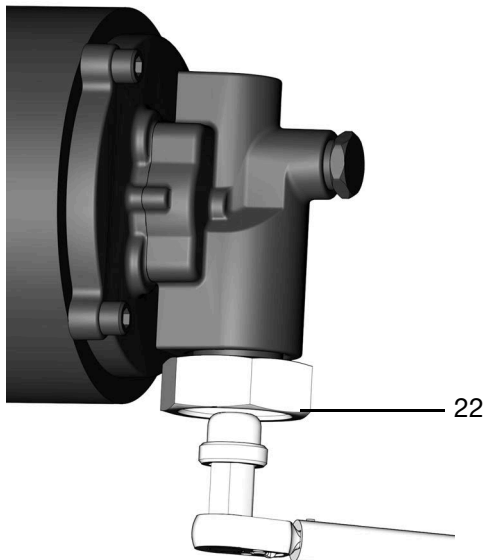

FIG. 2
5. Remove the suction filter (22) using a 3/4 in. (19 mm) hex wrench (FIG. 2).
1. Tighten the suction filter (22) into the pump inlet, using a 3/4 in. (19 mm) hex wrench (Torque 30 ft-lbs, 40.7 N•m) (FIG. 2).